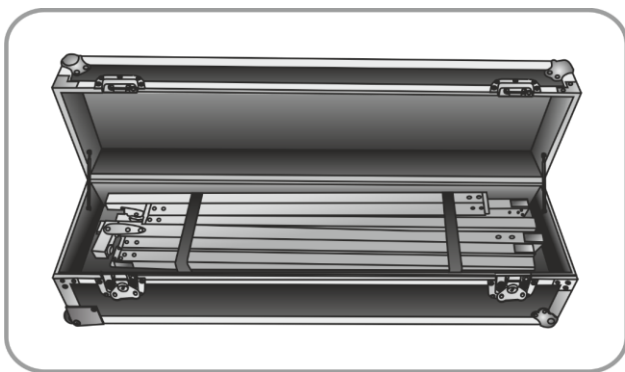
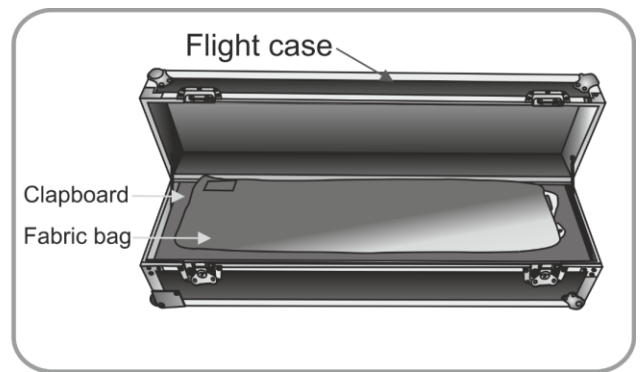

Fig. 27
Fig. 28
08) Put the legs and the main frame in the flight case and fasten them (Fig. 27). Put the accessory bag inside. Insert the clapboard and put the fabric bags on it (Fig. 28).